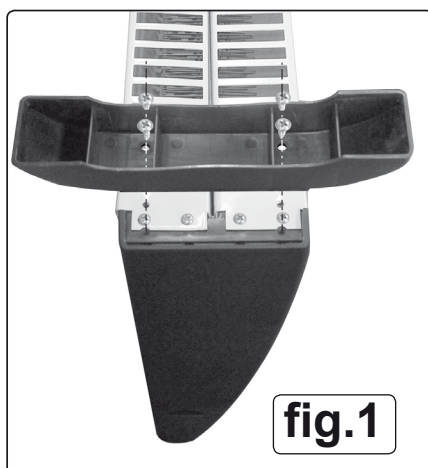

fig.1
- 3.2. **Mounting the feet.** (Refer to fig.1.) Turn the heater upside down and support it securely. Take one of the feet and place it onto the underside of the heater in the position indicated in fig.1. The upstanding rim on the top of the foot should fit neatly into the underside of each side moulding with the notch in the rim of the foot facing inwards. When the foot is correctly positioned the 4 holes in the foot will line up with the four holes in the underside of the heater. Fasten each foot down with the self tapping screws provided.